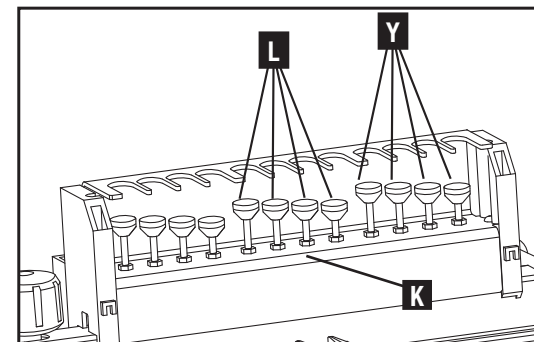

Fig. H9
- \* If using the standard half blind/sliding tapered dovetail on the 16" OMNIJIG®, set the depth using the sliding tapered dovetail bit depth gauges at (L) Fig. H9. Pick which gauge (L) to use based on the corresponding router bit and template guide combination listed on the label at (K).
- \* If using the half blind/sliding tapered dovetail template on the 24" OMNIJIG®, then use depth gauges at (Y). These are the user defined gauges and need to be set according to the instructions found in the appendix. Raise the router bit before setting router on bit depth gauge. Slowly lower the router bit onto the gauge. Depth of cut is set when bit barely touches the gauge.